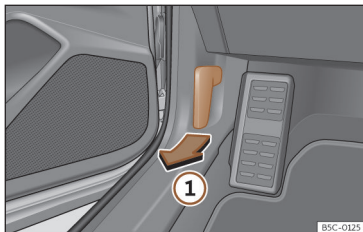

Fig. 183 Release lever in the driver's footwell area.
- Open the door and pull the lever that is underneath the dash panel >>> **Fig. 183** ①.